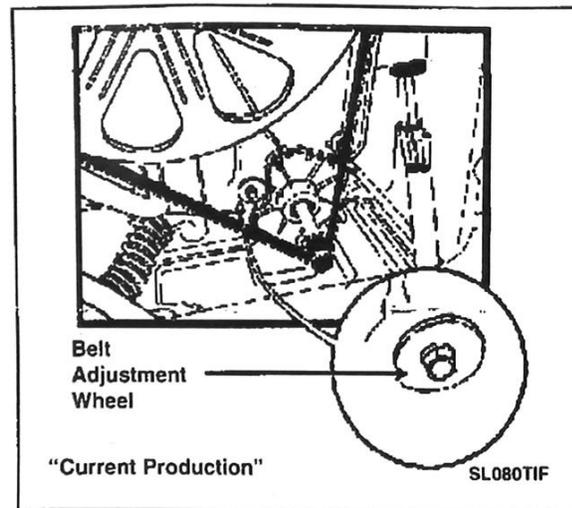

Figure 4
2. **(Later washer with non-adjustable washer)** No adjustment is necessary. Washer is designed for proper adjustment of belt. **(See Figure 4)**